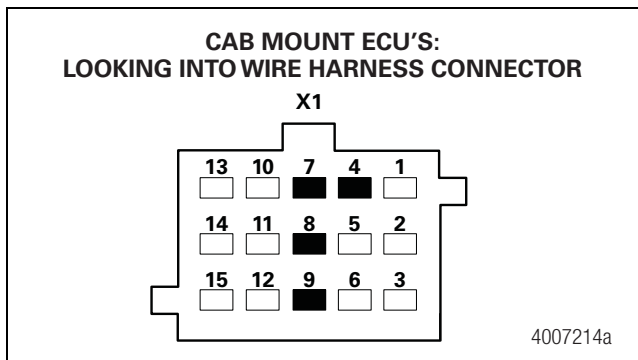
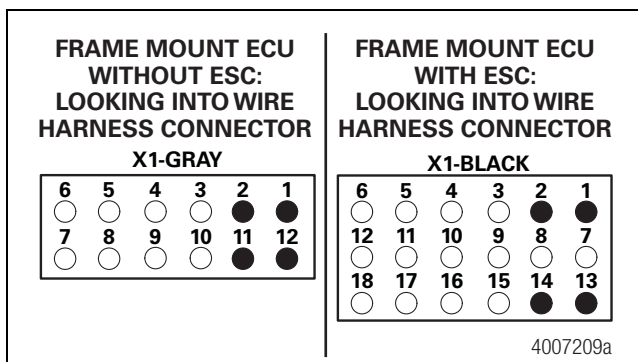

Figure 3.44
Figure 3.45
- Take measurements at the ECU harness pins. Figure 3.44 and Figure 3.45.